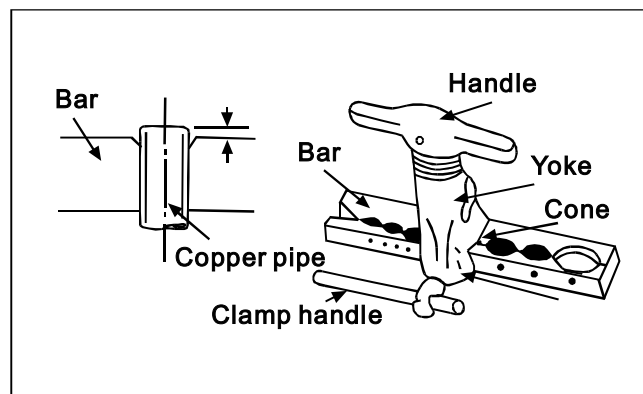

Fig.10
- Fit the copper pipe end into the bar of flare tool about 0.5-1.5mm higher. (See Fig.10)